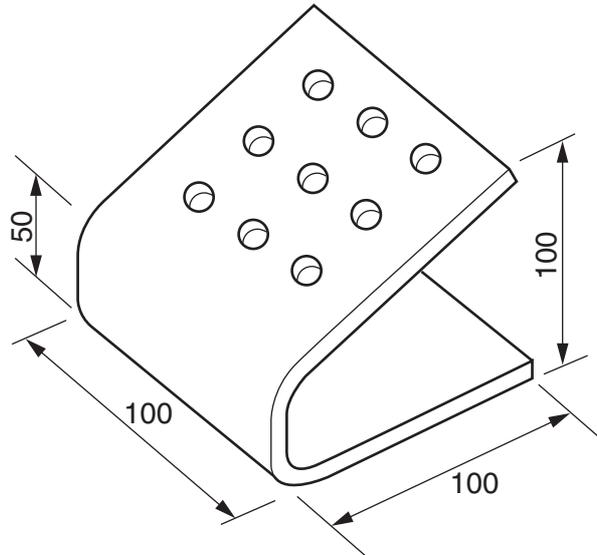

Fig. 3
- 2 A manufacturer has produced the desk tidy shown in Fig. 3 to hold pens, pencils and felt-tip pens.